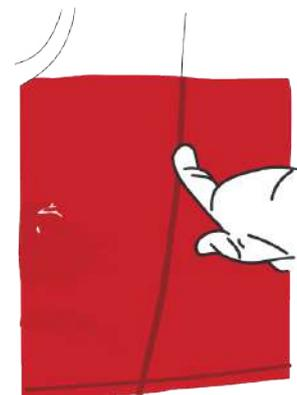

Figure 33
- › Trace the contours of the area with your (gloved) finger. (FIG. 33)